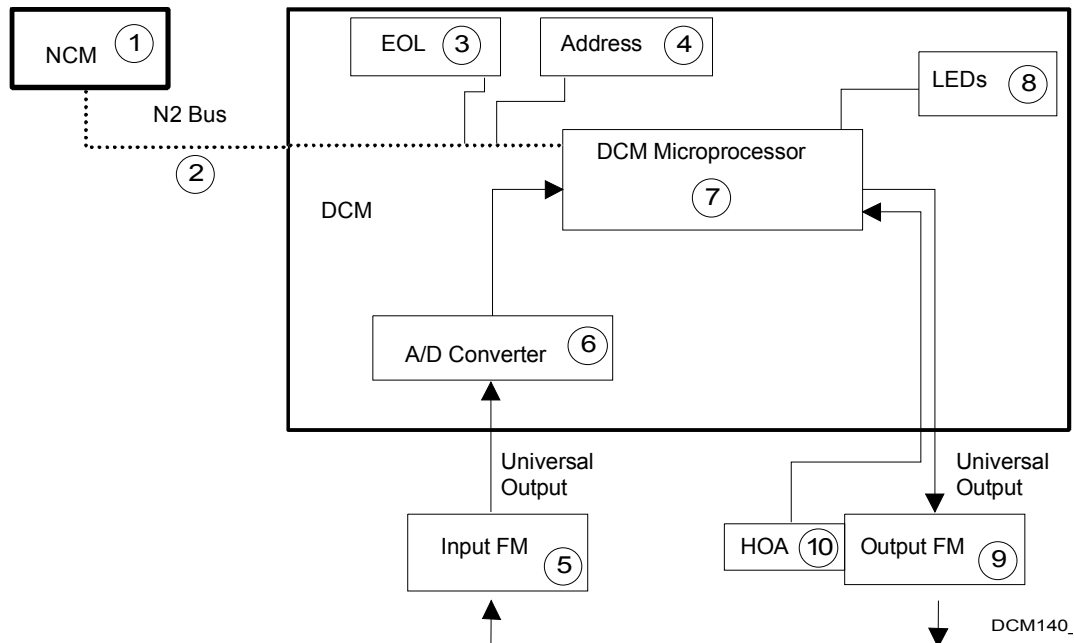

Figure 1: Block Diagram of DCM140 Operation
The Digital Control Module's inputs, outputs, and firmware enable it to perform closed-loop control over the devices wired to it. Yet, it receives all its system configuration data (e.g., analog input sensor type, universal output FM type) from the NCM (Item 1 of Figure 1) via the N2 Bus (2).